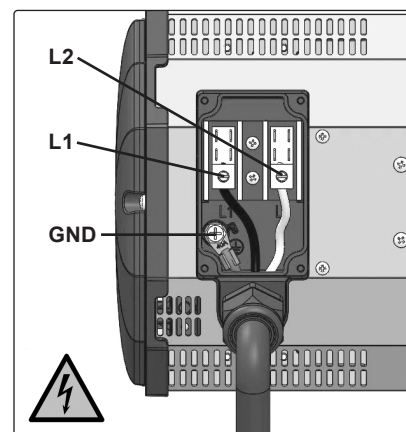

fig.4
- ✓ See fig.4 for wiring diagram.